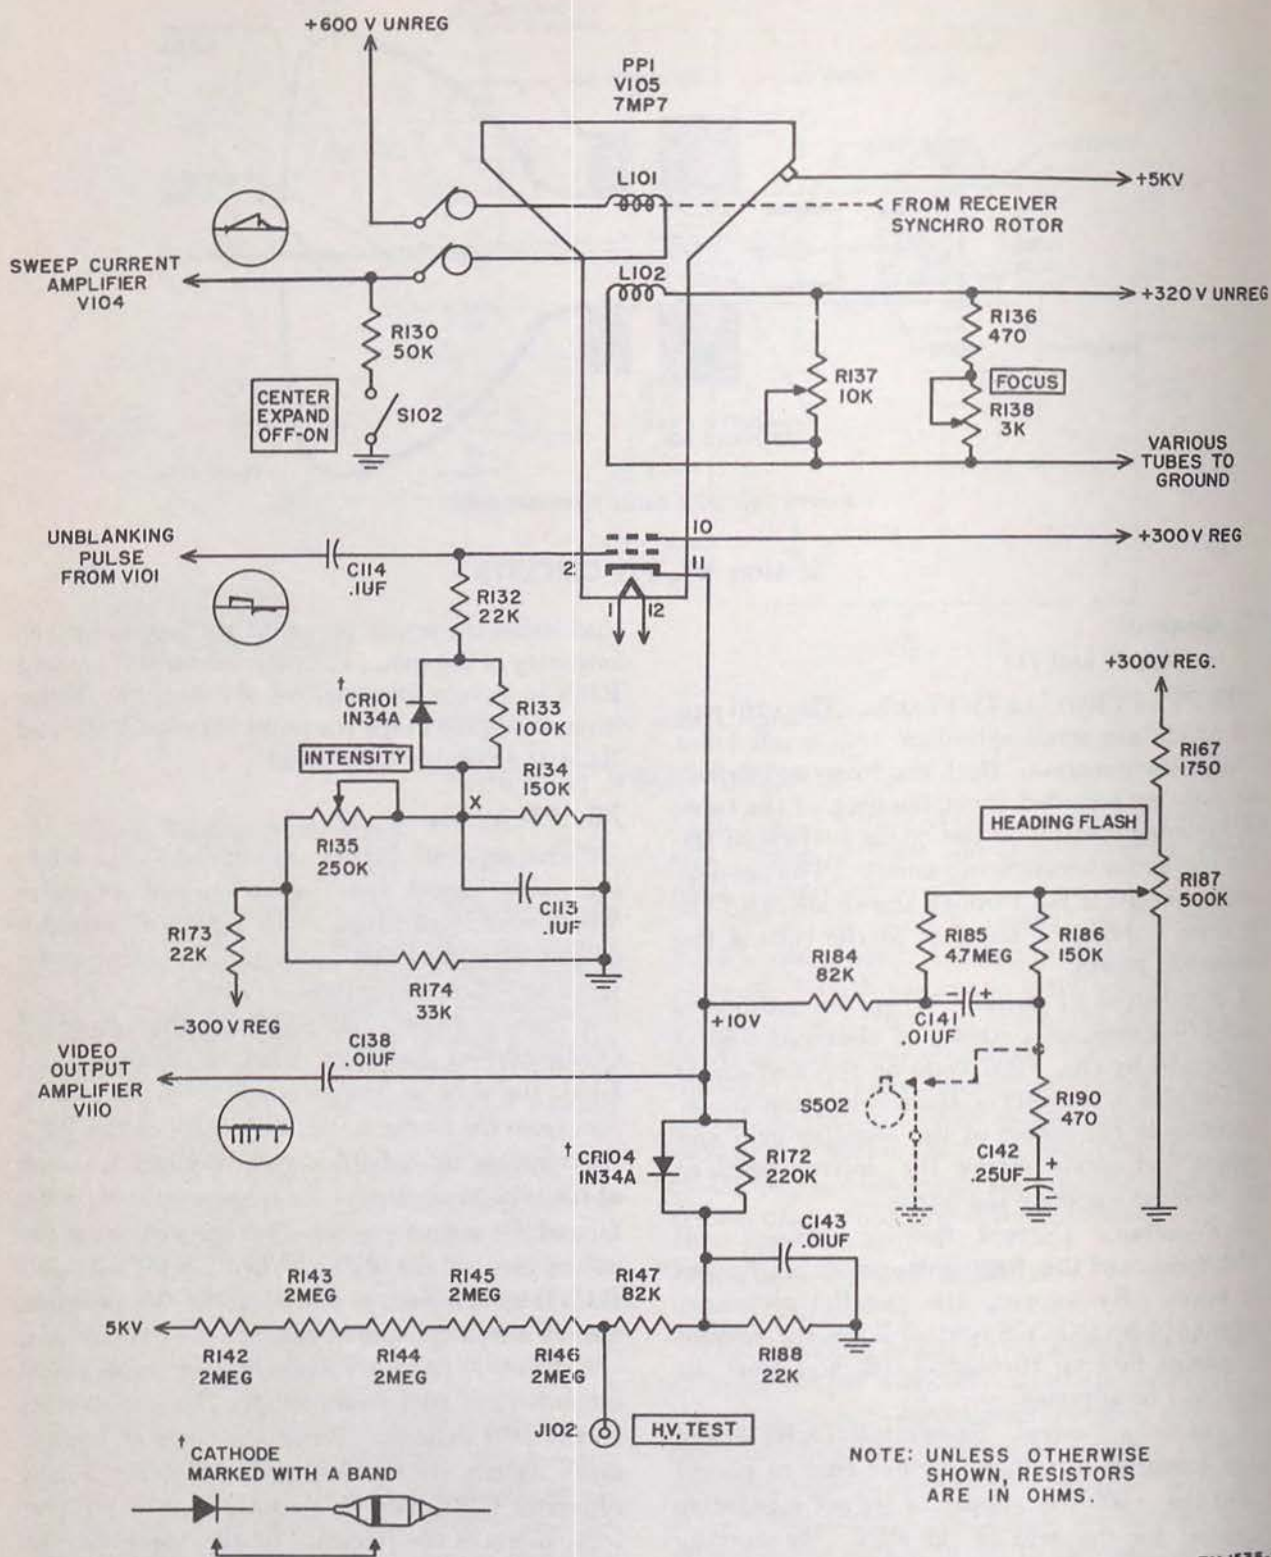

Figure 71. PPI circuits, schematic.
(fig. 71)
*a.* When heading flash cam switch S502 is open, C141 and C142 charge with the polarities indicated in figure 71. Capacitor C142 charges through R186 and R190. Capacitor C141 charges through R186, R184, R172, and R188. The potentials across the capacitors have very little effect on the PPI cathode potential because they buck each other in the path between cathode and ground. However, when heading flash cam switch S502 is closed, R190 and C142 are shorted, effectively placing the negative charge of C141 on the cathode. Thus, the bias is reduced and the sweep intensifies momentarily. The action is momentary because C141 discharges quickly through R184, R172, and R188.